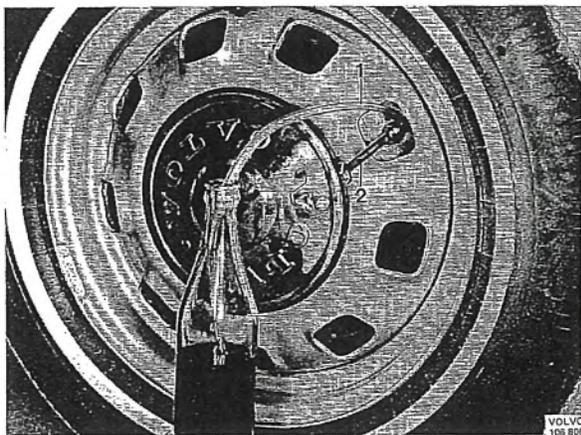

Fig. 5–67. Mechanical bleeding
- Check that there is full travel on the brake pedal (about 150 mm = 6", measurement A, Fig. 5–62).
- Bleeding should be carried out in the order shown in Fig. 5–64 and as follows:
bottle, see Fig. 5–67. Open the bleeder nipple at the most half a turn. Slowly press the brake pedal down to the bottom. When the pedal reaches the bottom, pause a little and then quickly release the pedal. Repeat this procedure until brake fluid free from air bubbles flows out. Then press the pedal to the bottom and close the bleeder nipple.